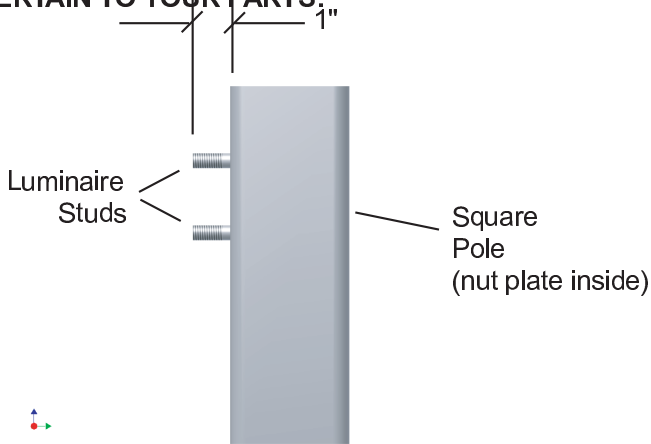

FIGURE 4
A. DIRECTLY TO SQUARE POLE - FIGURE 4
- 3. With nut plate inside pole, thread luminaire mounting studs thru top and bottom pole holes, then into nut plate. See Figure 4.